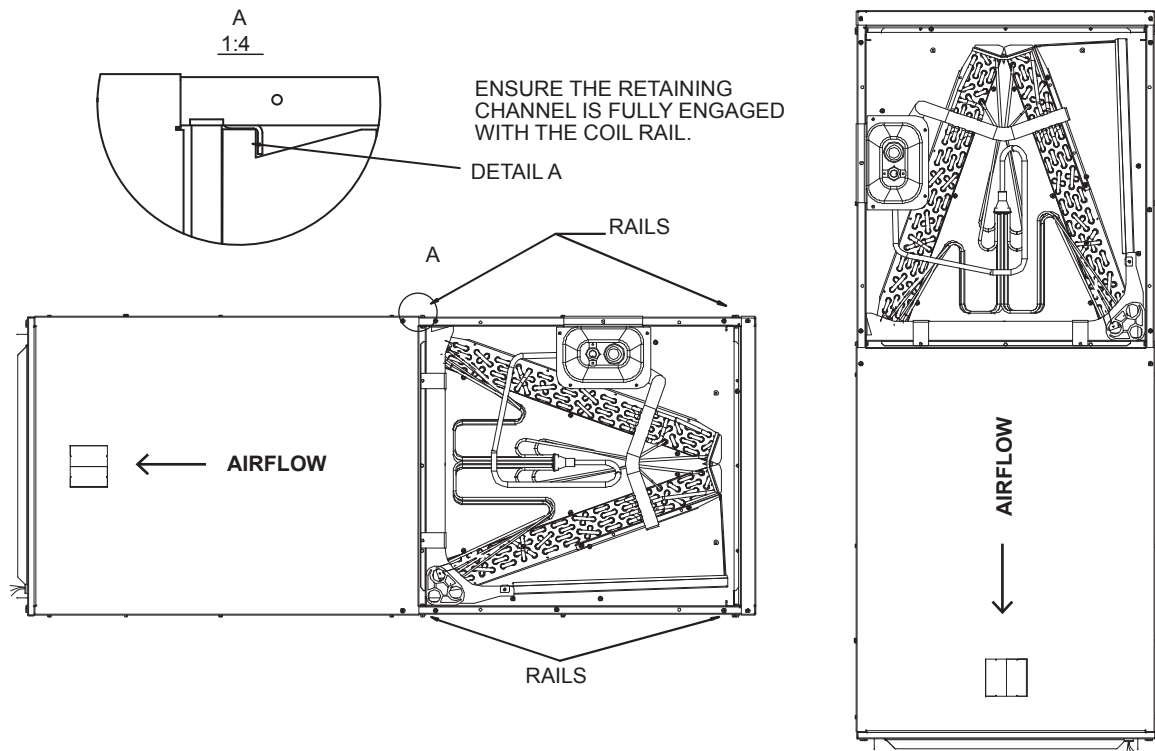

Fig.8 VERTICAL DOWNFLOW & HORIZONTAL LEFT APPLICATIONS
Conversion to Vertical Downflow: A vertical upflow unit may be converted to vertical downflow. Remove the door and indoor coil and reinstall 180° from original position. See Fig. 8.
- Rotate unit into the downflow position, with the coil compartment on top and the blower compartment on bottom. See Fig. 8.
- Reinstall the indoor coil 180° from original position. Ensure the retaining channel is fully engaged with the coil rail. See Fig. 8.
- Low voltage control connections are made to low voltage pigtails extending from top of air handler (upflow position - see Fig.8).